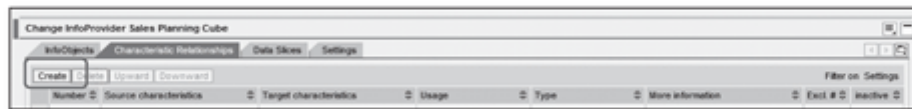

Figure 12.17 Create New Characteristic Relationship
5. Click on the Create button to create a new characteristic relationship (Figure 12.17).